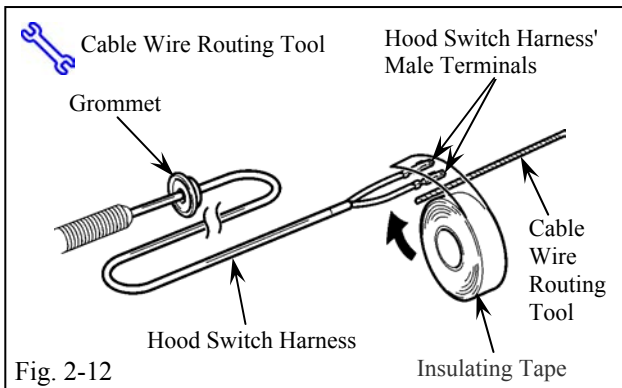

Fig. 2-12
- (p) Secure 2 Terminals at the end of the Hood Switch Harness to the Cable Wire Routing Tool with Insulating Tape. (Fig. 2-12)